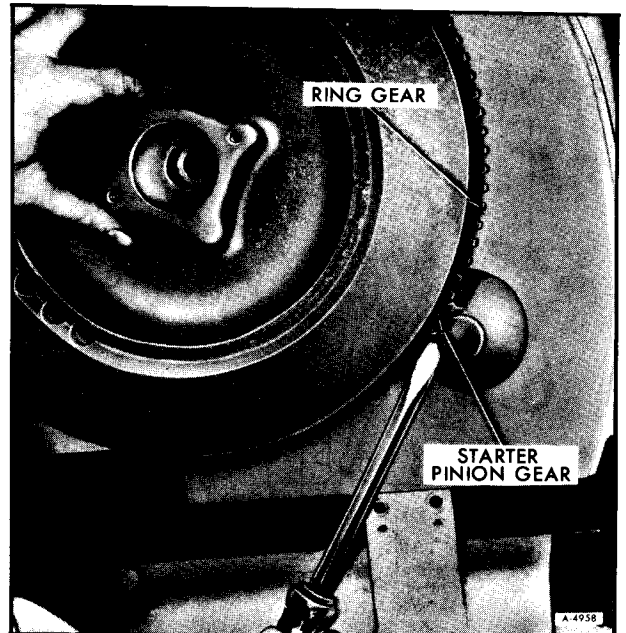
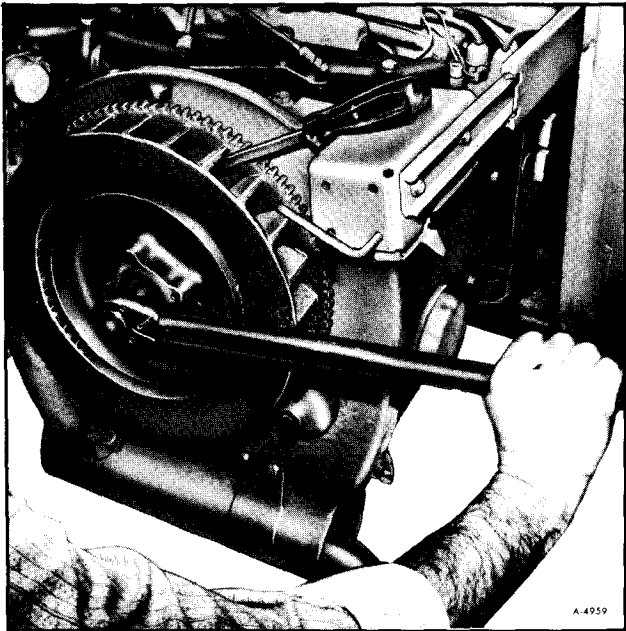

Figure 55—Aligning Starter Pinion Gear with Ring Gear
Figure 56—Torquing Flywheel Center Bolt
Reassembly is done in the reverse order of disassembly. When reinstalling the flywheel, be sure to align the starter pinion gear with the ring gear (See figure 55) and torque the flywheel center bolt to 45 ft. lbs. (See figure 56).
2. Loosen the retaining screws and remove the solenoid from the front bracket. Simultaneously, the fiber washers, the return spring and the solenoid plunger will be removed (figure 56).